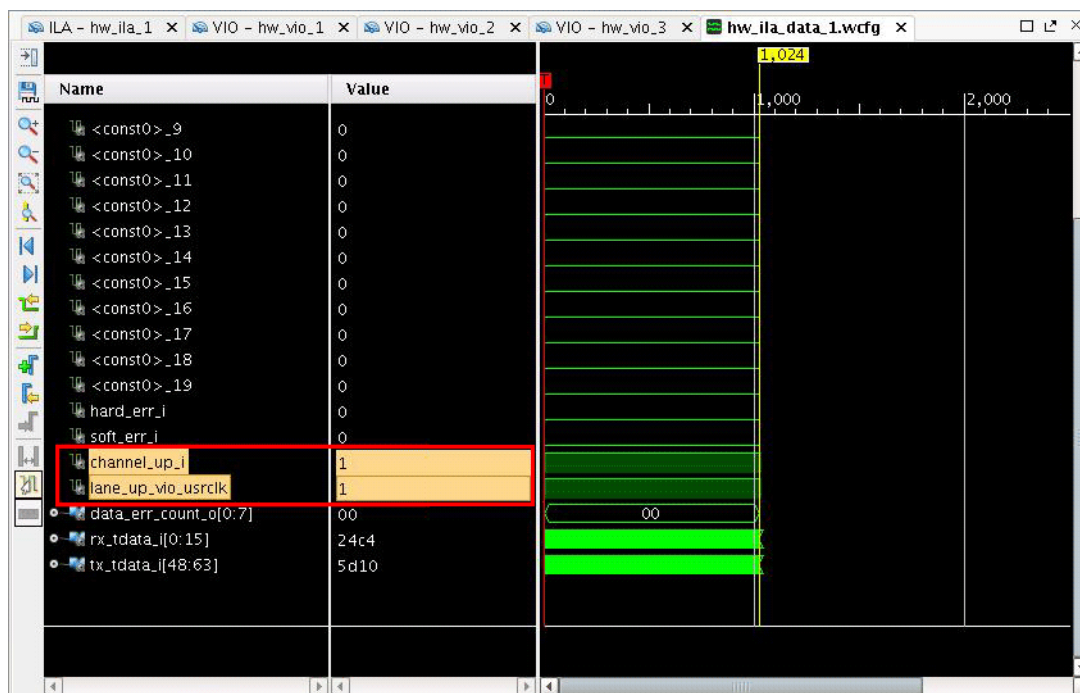

Figure 25: Single Lane HW-ILA Waveform
1. Right-click the device in the Hardware list and select **Run Trigger**. In the waveform window that appears, observe a High state on the `lane_up` and `channel_up` signals (see Figure 25).